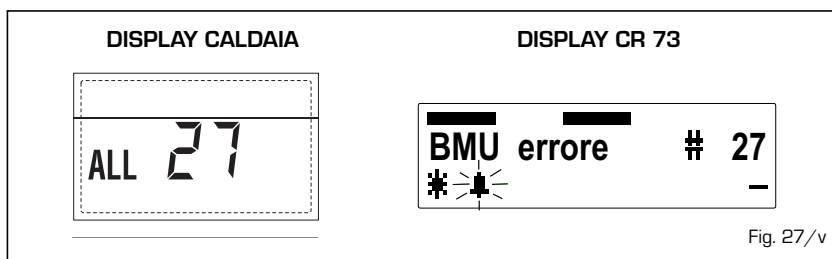

Fig. 27/v
– **ANOMALIA FLUSSOSTATO INGRESSO BOLLITORE SOLARE "ALL 28 - # 28"** (fig. 27/w)